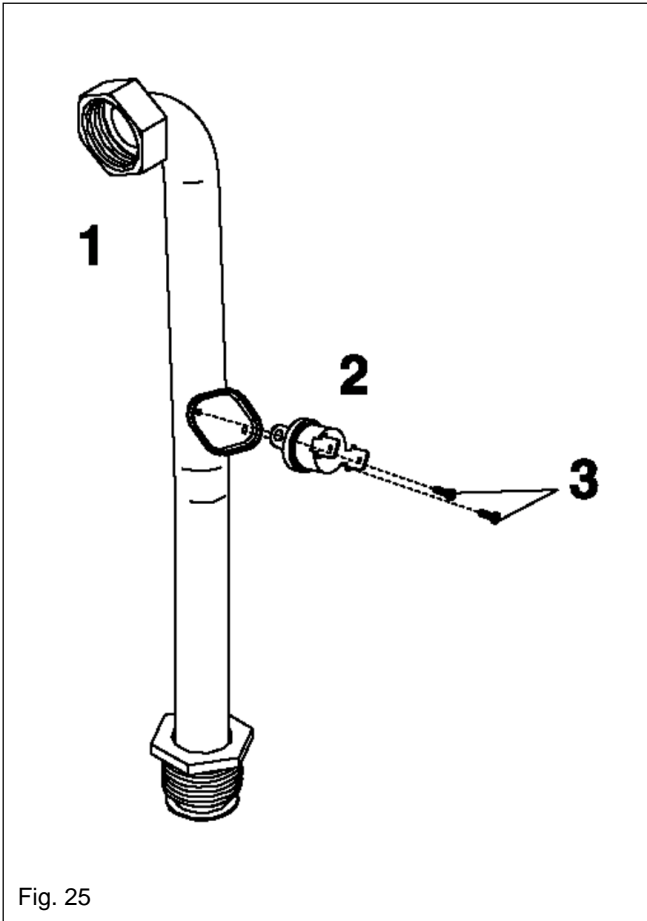

Fig. 25
6.11 HIGH LIMIT THERMOSTAT (see fig. 25)